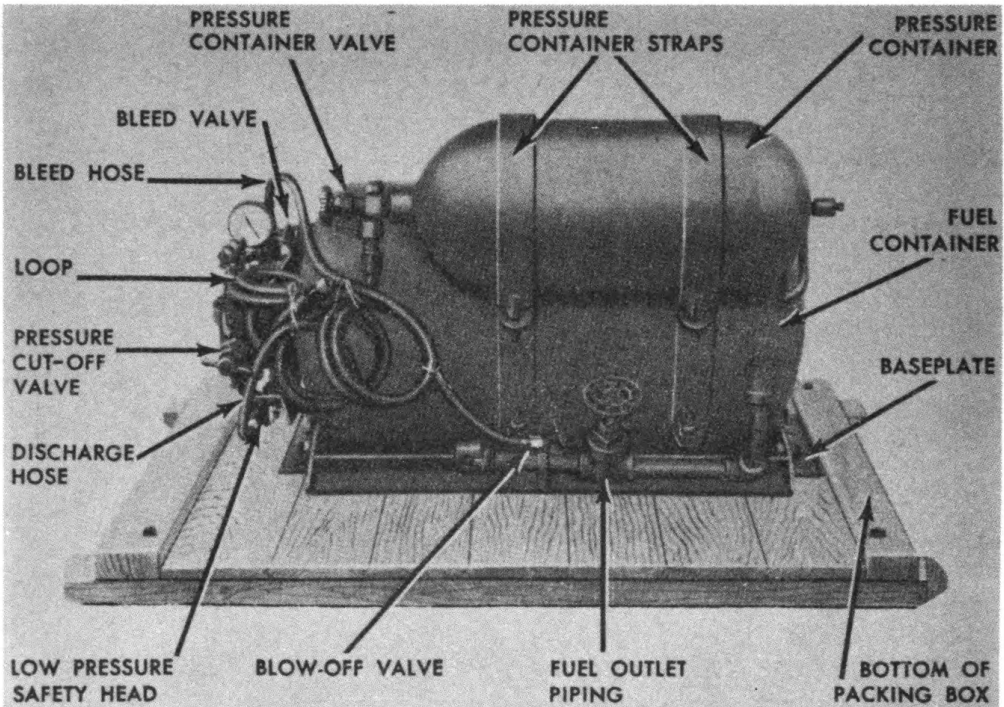

Fig. 7. Sponson fuel group ready for disassembly prior to installation.
a. Dismantle packing box. (1) Remove packing box lid and lift out the boxes containing gun, tools, organizational spare parts, and pressure container relocating equipment.
(2) Knock out sides and ends of packing box. Do not remove fuel group from bottom of box (fig. 7).
(3) Place box lid (inner side up) on the ground near bottom of box.
(4) Lay all parts and assemblies on the box lid as they are removed from the sponson fuel group.
(5) Remove rust-preventive materials from sponson fuel group.
(1) Loosen nut which connects pressure container to loop (fig. 7).
(2) Loosen nut connecting loop to pressure cut-off valve.